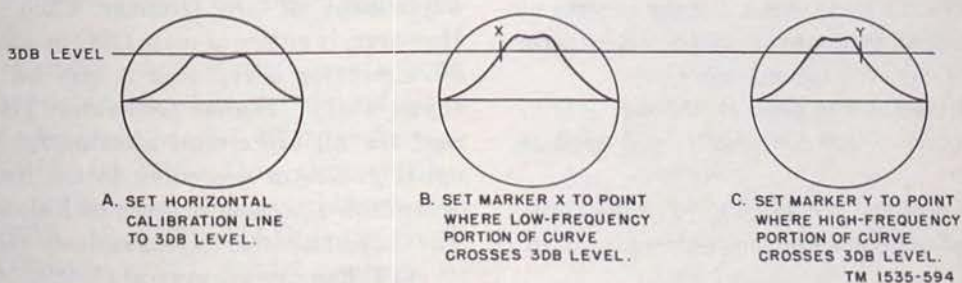

Figure 141. Signal circuits frequency response curves.
- (1) Remove signal crystal CR201. Connect the RF OUTPUT jack on the signal generator to the signal crystal jack.
- (2) Connect a 220-ohm resistor across E201 and across E202. Remove V207 from its socket.
- (3) Connect the traveling detector between the VERTICAL INPUT jack on the signal generator and the cathode (pin 7) of V206.
- (4) Place selected RF ATTENUATOR switches on the signal generator (but not the 3 DB switch) at IN.
- (5) Throw the 3 DB switch of the RF ATTENUATOR in the signal generator to IN.
- (6) Place on the oscilloscope screen a horizontal calibration line corresponding to the amplitude of the attenuated waveform (A, fig. 141). Once this level has been established, do not change the VERTICAL AMPL GAIN or the HORIZONTAL AMPL GAIN controls, or vary any of the RF ATTENUATOR switches, except as specified later.
- (7) Adjust the MARKER AMPLITUDE control on the signal generator until the
level, point X (B, fig. 141.) Record this frequency.
- (10) Turn the wave meter tuning control until the marker appears at the point where the right hand portion of the curve crosses the 3 DB level line, point Y (C, fig. 141). Record this frequency.
- (11) Adjust signal trimmer C201 for flat frequency response with a center frequency of 30 mc and the 3 DB points at 27.5 mc ( $\pm .5$  mc) and at 32.5 mc ( $\pm .5$  mc).
- (6) Place on the oscilloscope screen a horizontal calibrating line, corresponding to the amplitude of the attenuated wave form (A, fig. 141). Once this level has been established, do not change the VERTICAL AMPL GAIN or the HORIZONTAL AMPL GAIN controls, or vary any of the RF ATTENUATOR switches, except as specified later.
- (7) Adjust the MARKER AMPLITUDE control on the signal generator until the blanker marker appears clearly on the wave form. The frequency on band C to which the frequency dial is set is indicated under the hairline on the dial and on the wave form at the point blanked out by the marker.
- (8) Place the 3 DB switch of the RF ATTENUATOR in the OUT position.
- (9) Turn the wave meter tuning control on the signal generator until the marker appears at the point where the left hand portion of the curve crosses the 3 DB level, point X (B, fig. 141). Record this frequency.
- (10) Turn the wave meter tuning control until the marker appears at the point where the right hand portion of the curve crosses the 3 DB level point Y (C, fig. 141). Record this frequency.
- (11) Adjust afc trimmer C226 for a flat response with the 3 DB points at 27.5 mc and at 32.5 mc.
- (12) Turn the wave meter tuning control on the generator until the wavemeter dial reads 30 mc on scale C.
(13) Adjust L219 for centering of the 30 mc marker.
(14) Remove the 220- and 560-ohm resistors.